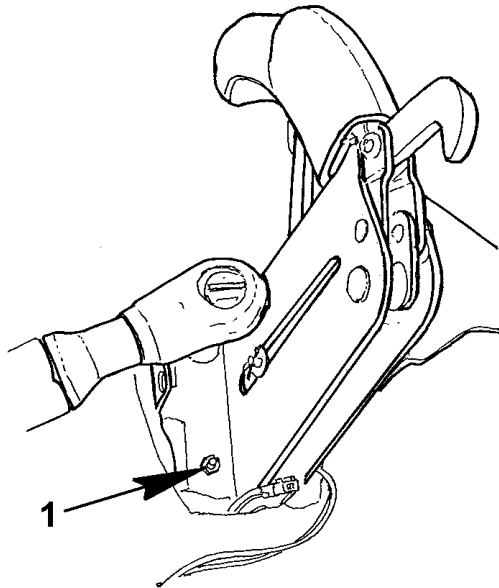

Figure 4 Mounting Fastener Removal
5. Remove 4 mounting fasteners, (3 nuts and 1 bolt, short brake assembly) and (4 bolts, tall brake assembly) located at the parking brake base plate (Figure 4).